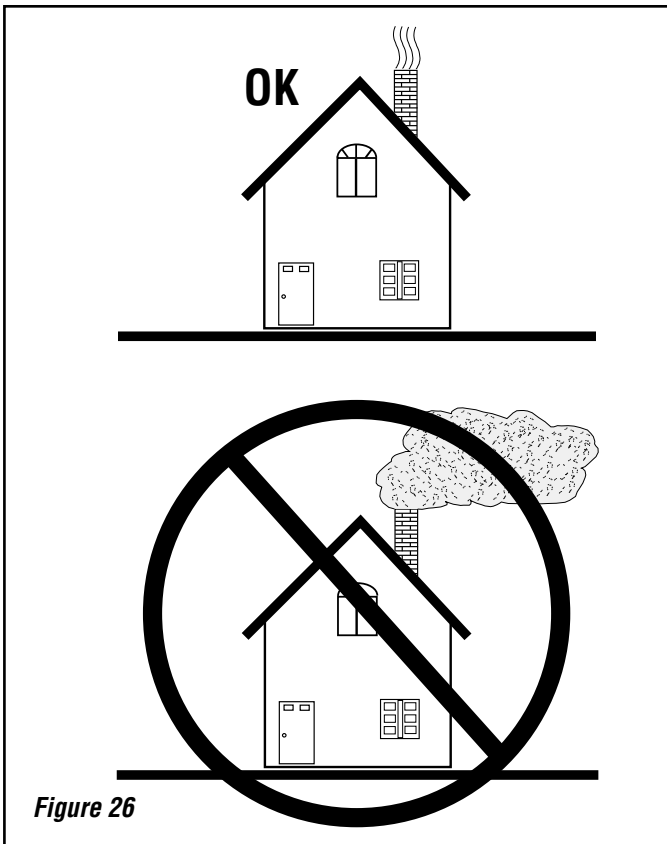

Figure 26
6. Go outside and check your chimney. More than a very small amount of smoke indicates wasted heat, creosote build up and pollution (*see Figure 26*).